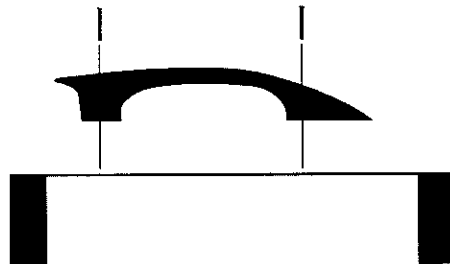

Figure 2. Handle Installation
3. With a flat tip screwdriver, securely tighten both screws. (see Figure 2)